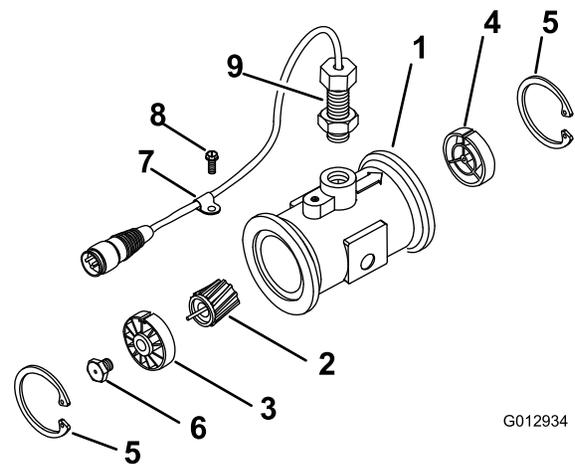

Figure 66
- Remove the retainer ring on the upstream side (Figure 66).